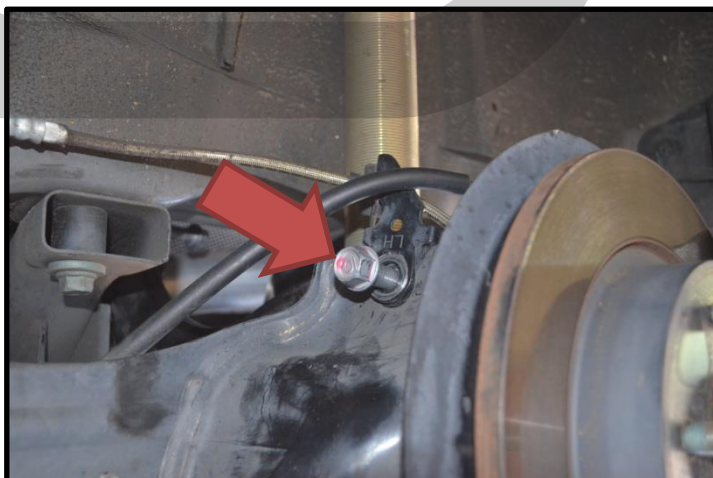
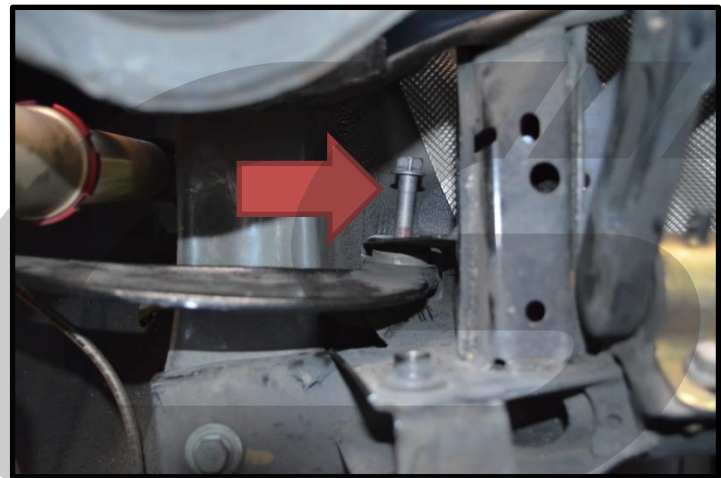

Figure 1b
Figure 1c
- d) **Locate the upper and lower bolts that attach the camber arm in place and remove with a 17mm end wrench (upper) and socket (lower).** Figure 1b shows the lower bolt inside the wheel well and Figure 1c shows the upper bolt seen from under the car.
- d) **Locate the upper and lower bolts that attach the camber arm in place and remove with a 17mm end wrench (upper) and socket (lower).** **Figure 1b** shows the lower bolt inside the wheel well and **Figure 1c** shows the upper bolt seen from under the car.